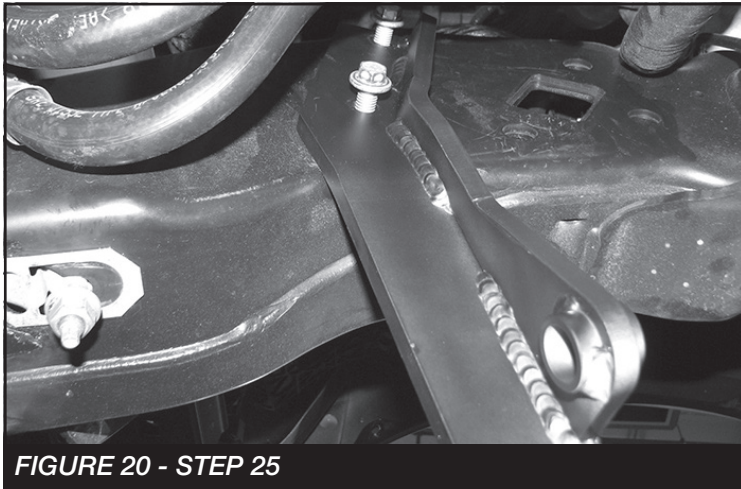

FIGURE 20 - STEP 25
25. Install FT30672 (steering stabilizer drop bracket) in the factory location using the factory hardware. Torque to 127 ft-lbs. **SEE FIGURE 20**